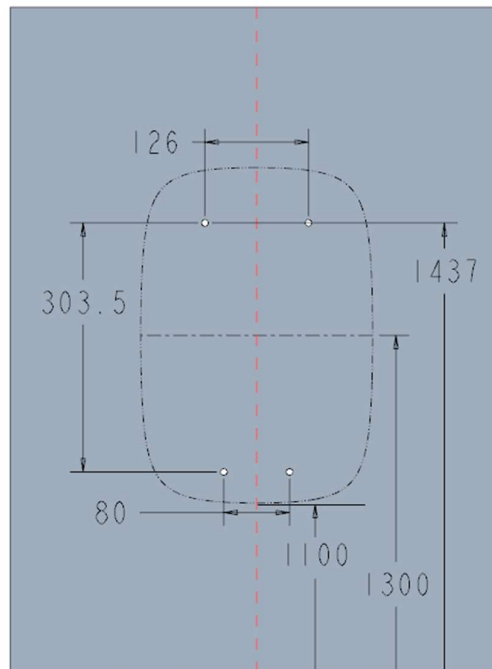

Figure A-12 Wall drilling center distance
2. As shown in Figure A-12, the center distance of the wall drilling hole, place the punching template at a suitable height, and mark the punching position on the wall with a pencil.